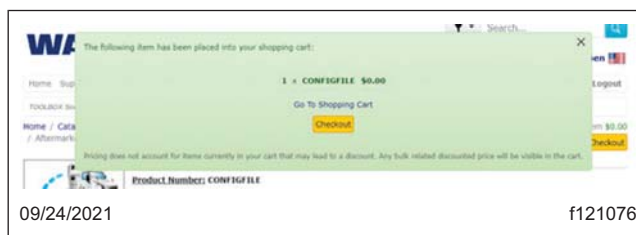

Fig. 6, Selecting Checkout
- Once the configuration file has been added to the shopping cart, select 'Go To Shopping Cart' or 'Check-out' in the window that appears. See Fig. 6.